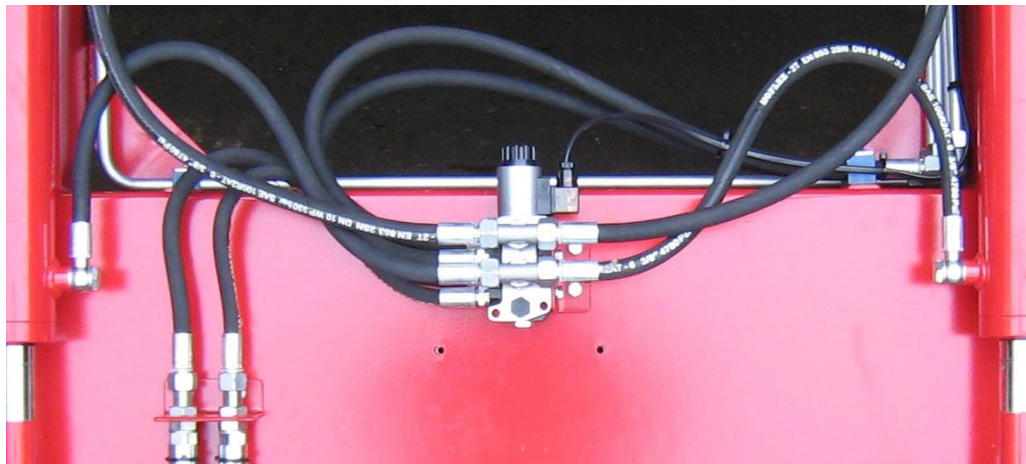

Fig. 2. 3-rd Section Control set.
- To move forward the quick coupler this is fixed on boom (Fig.2).